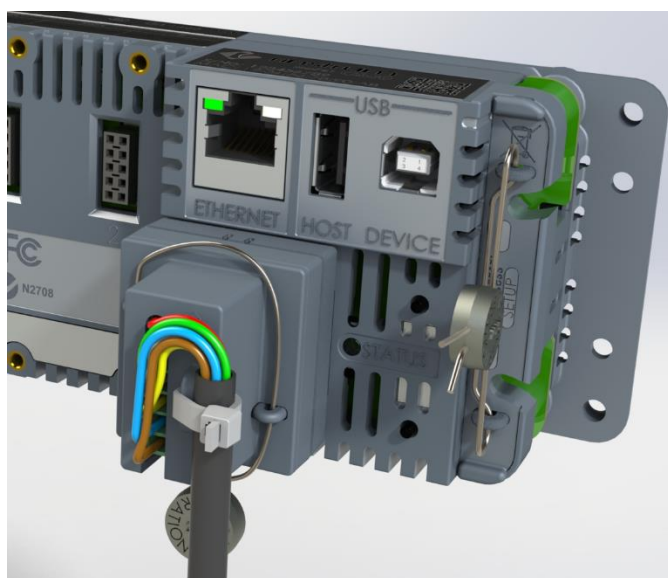

Figure 3: Wire seal loop locations.
2. Insert wire seals through loops provided and close the seals as shown in Figure 3.
4. Insert wire seals through loops provided and close the seals as shown in figure 3.